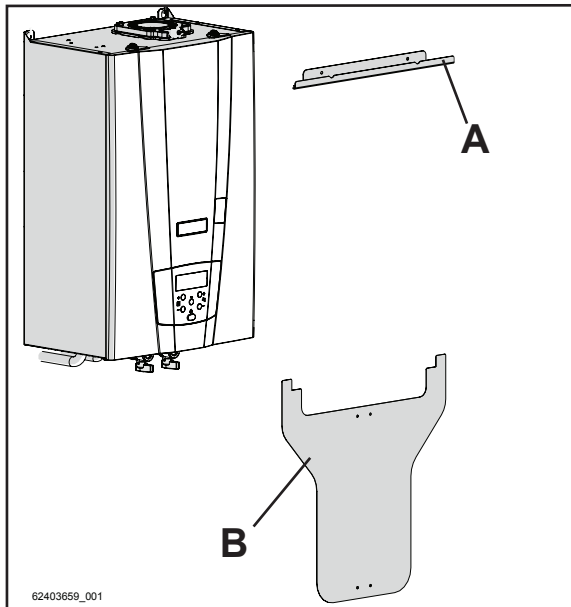

Figure 5-31
- 1 - Position upper fixing bracket "A" and the centring template "B" on the wall, as shown in figures 5-31 and 5-32.